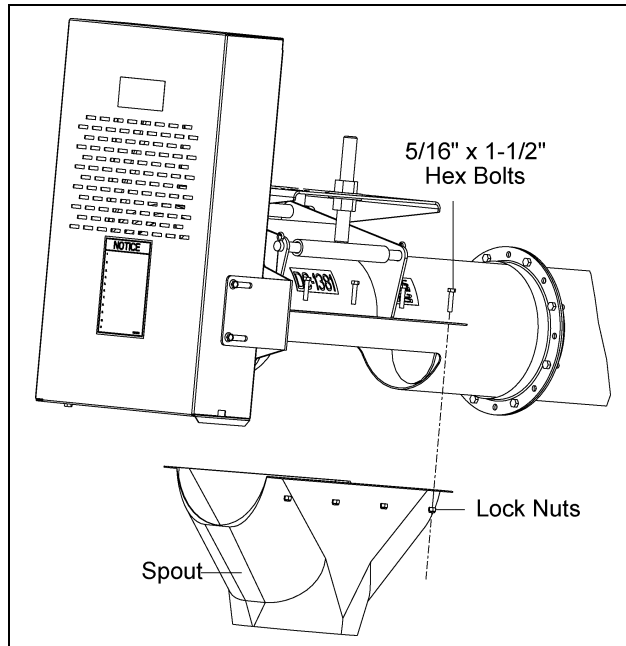

Figure 4R
- B. Attach spout using 5/16" - 18 x 1-1/2" hex-bolt and lock nut. *(See Figure 4R)*